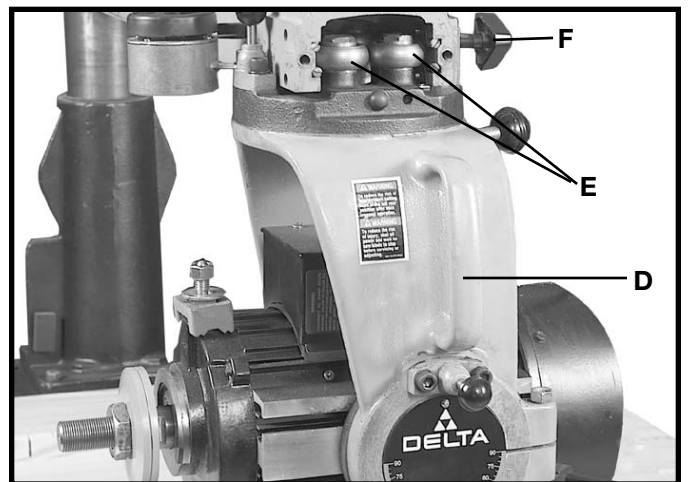

Fig. 9
2. Hold cuttinghead assembly (D) Fig. 9, with both hands and insert the ball bearings (E) into the track-arm, as shown. Push cuttinghead all the way onto track-arm and tighten clamp knob (F).